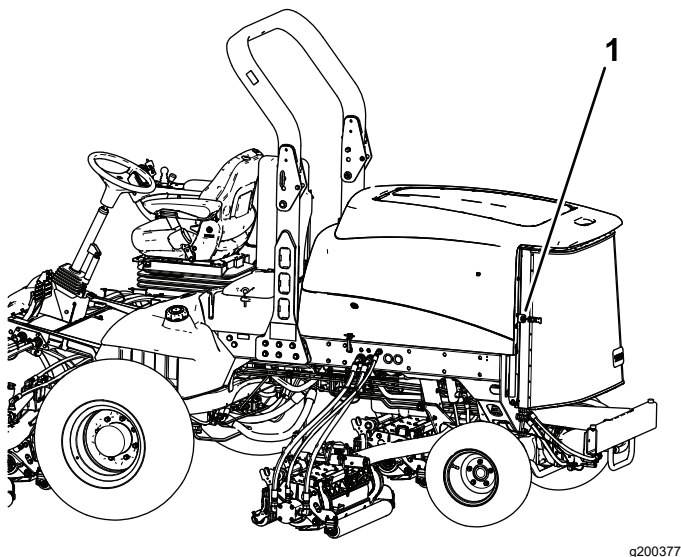

Figure 115
2. Unlatch and swing open the rear screen (Figure 115).